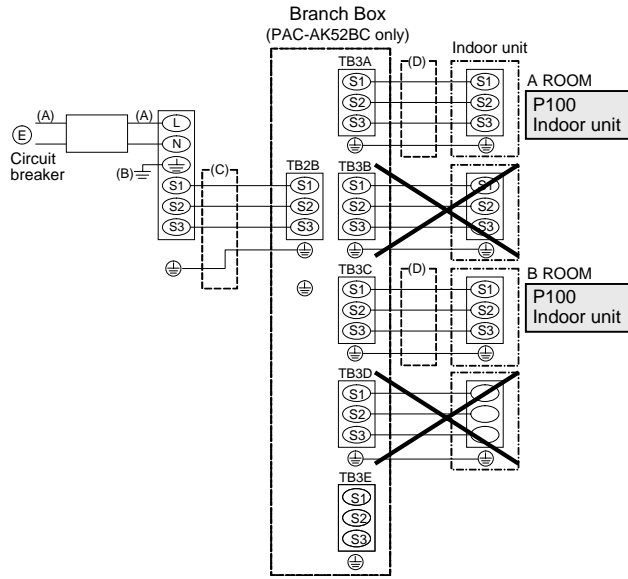

Fig. 9-2
**9-2. WIRING TO P100 INDOOR UNITS (Fig. 9-2)**